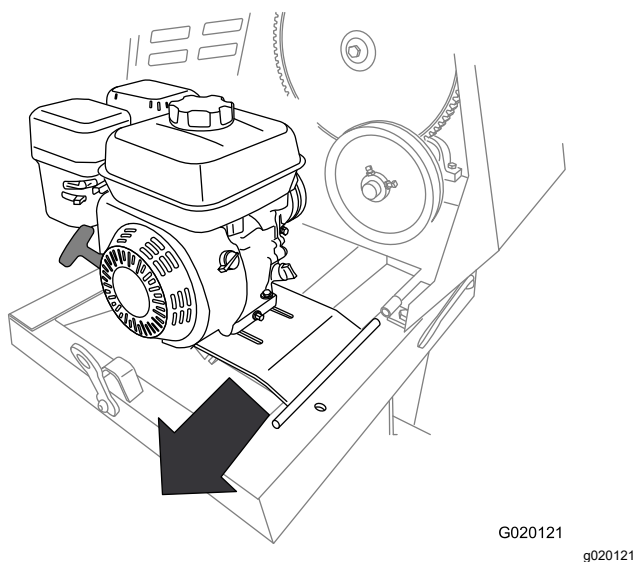

Figure 51
10. Slide the engine deck rearward and out from the forward hinge bracket (Figure 51).
11. Remove the engine and engine deck from the machine (Figure 51).
2. Align the pivot on the engine deck with the forward hinge bracket (Figure 51).
3. Slide the engine deck forward and the pivot into the forward hinge bracket (Figure 51).
4. Align the rear hinge bracket with the pivot on the engine-deck hinge (Figure 51).